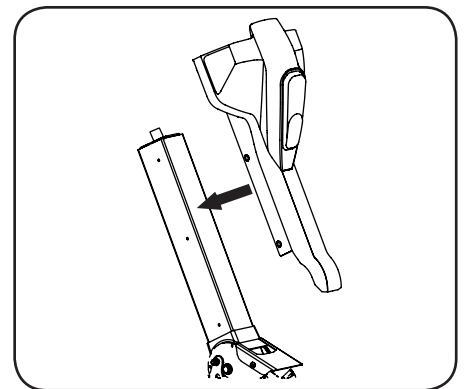
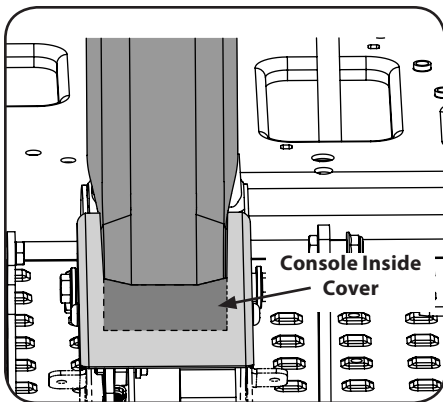

Figure 2-4
Figure 2-5
2. Slide the console onto the steering column with the wiring harness tucked in behind the console. Make sure the lower portion of the console is inside the lower column cover. See Figure 2-4 and Figure 2-5.